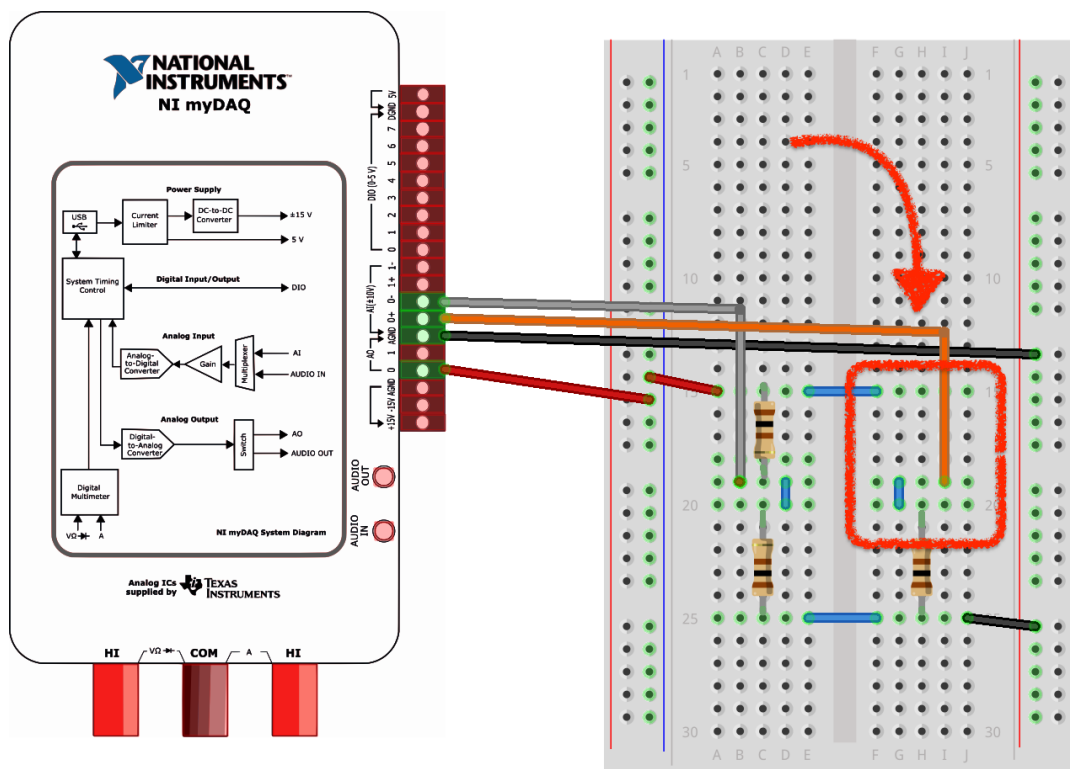

Figure 2. Wheatstone Bridge Circuit Setup
1. Arrange on a breadboard the circuit from Figure 2.